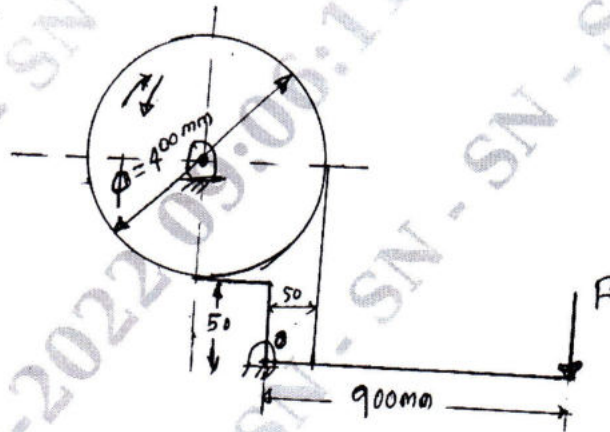

Fig. Q6 (b)
- b. The torque absorbed in the band brake shown in Fig. Q6 (b) is $400 \times 10^3 \text{ N}\cdot\text{mm}$. Design the band and lever, taking $\mu = 0.27$ and diameter of drum as 400 mm. The allowable stress in band may be taken as 70 N/mm^2 .